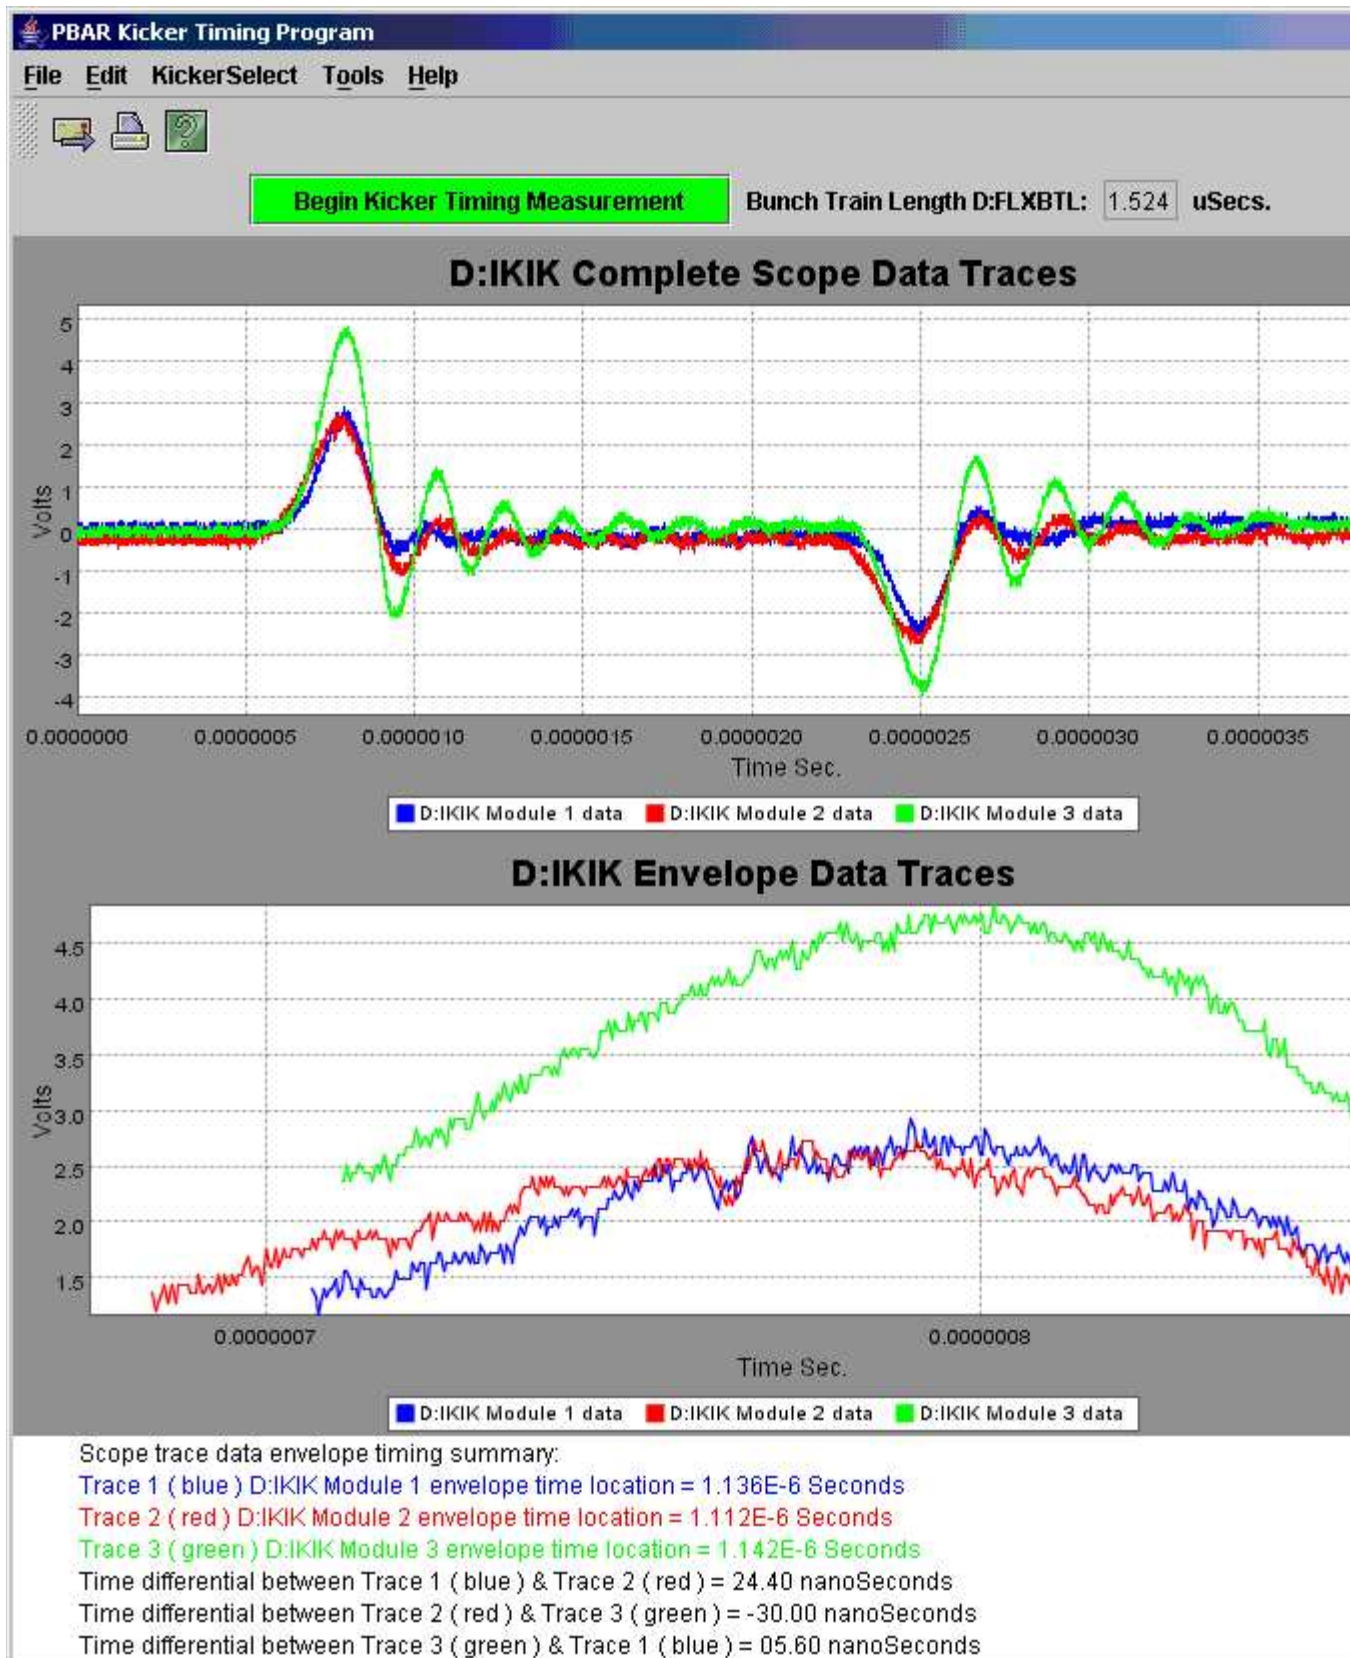

Figure 19: The Pbar Kicker Timing Program shows the Debuncher Injection Kicker scope traces. Comparing the results of this display with that of
9. Examine the Pbar Kicker Timing application (see Figure 19) to see if the kicker trace alignment is converging. The value of D:FLXBTL should be the same or larger than that seen in Step 6. Click on the green box that is labeled "Begin Kicker Timing Measurement" as shown in Figure 19.